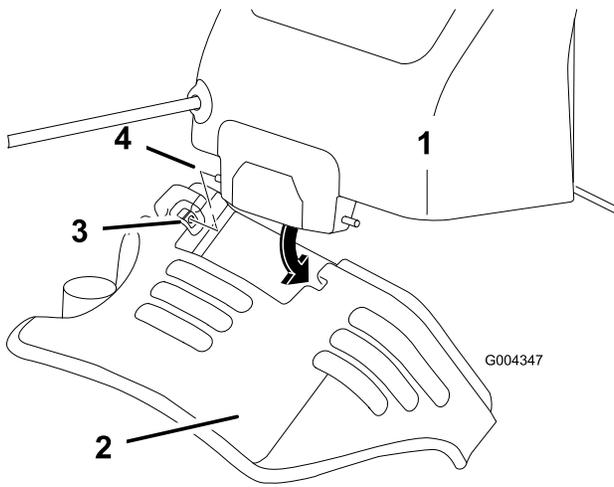

Figure 4
5. Install the collection bag to the machine (Figure 4). Install the lever side pin in the collection bag into the retaining hole in the notch of the engine cover. Seat the opposing pin into the other notch in the engine cover and allow the collection bag swing down into place.